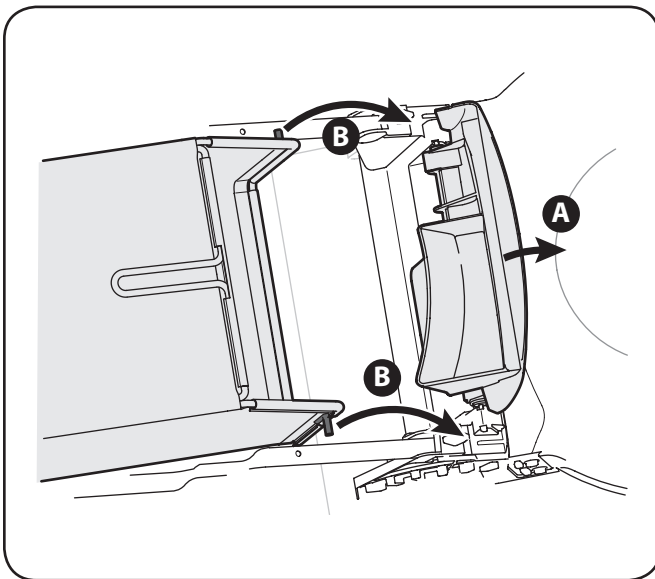

Figure 3-8
2. Follow steps below to attach grass catcher: See Figure 3-8.